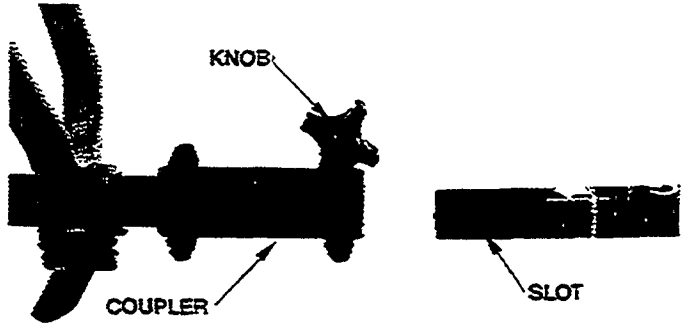
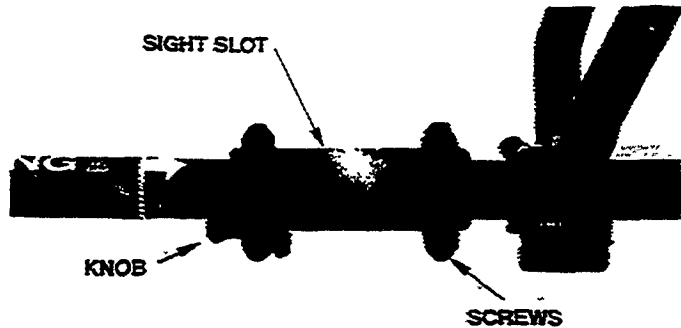

Figure 2
Figure 3
- Snap mid-handle over shaft tube adjacent to tube coupler (top of handle should angle back toward engine) (Figure 2).
- First, loosen the knob near the open end of the coupler. It is not necessary to loosen the other three (3) screws.
- Position the slot of the lower tubes as shown in (Figure 2) and slide the lower unit into the coupler until the tubes of the power unit and the lower unit solidly meet within the coupler. By looking in the slot (Figure 3) on the top, you should see both tube ends are butted together before retightening the knob. The inner drive shafts will align themselves.